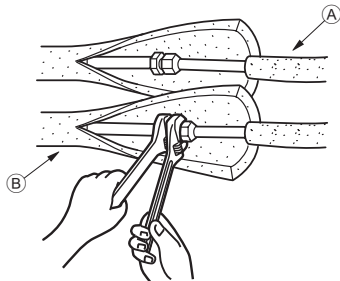

Fig. 4-4
4.5. Refrigerant piping (Fig. 4-4)